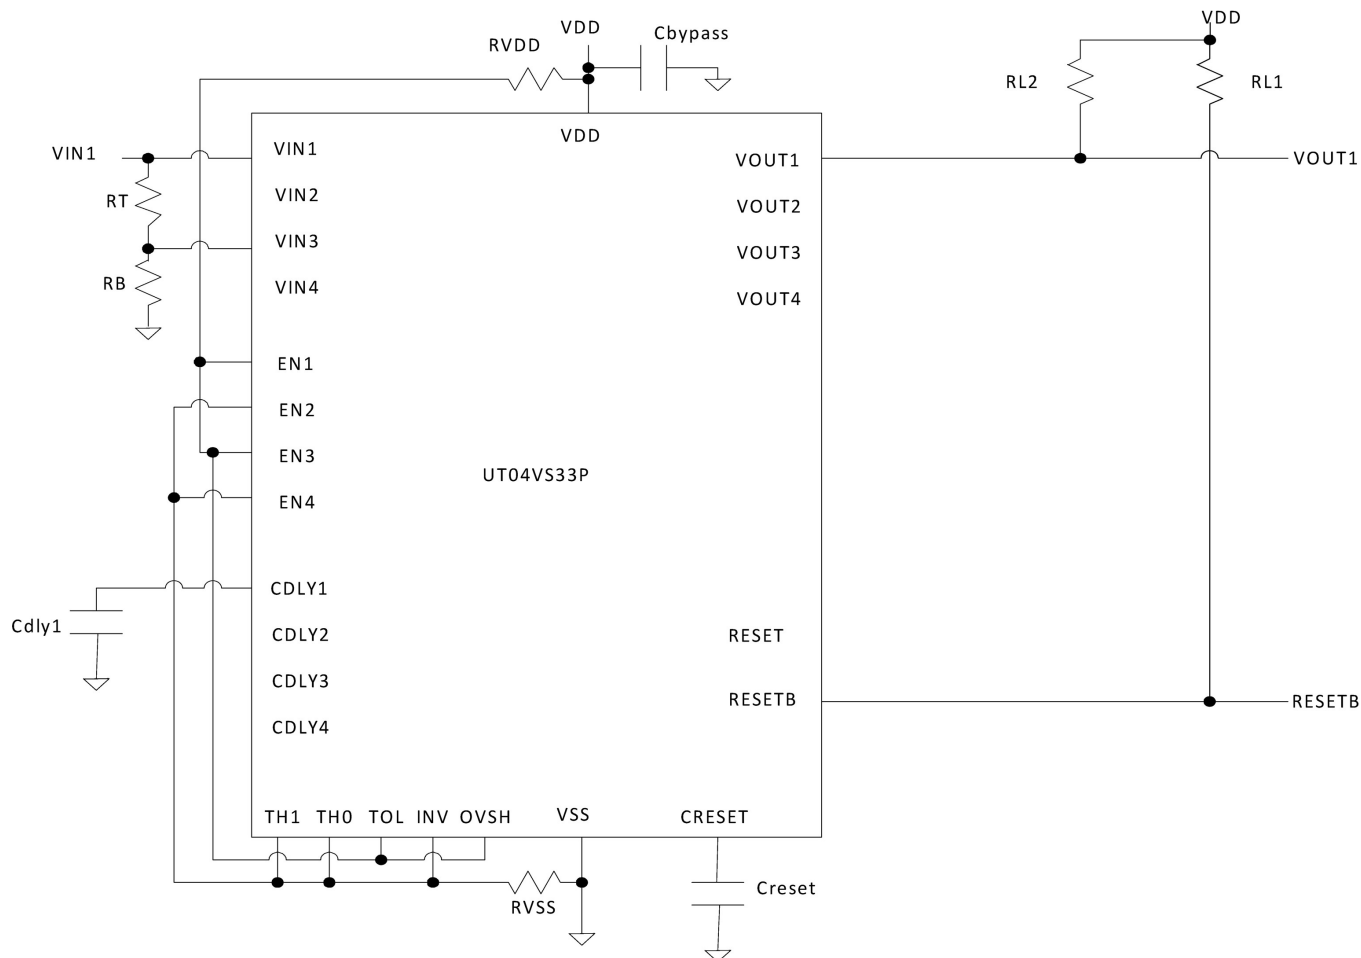
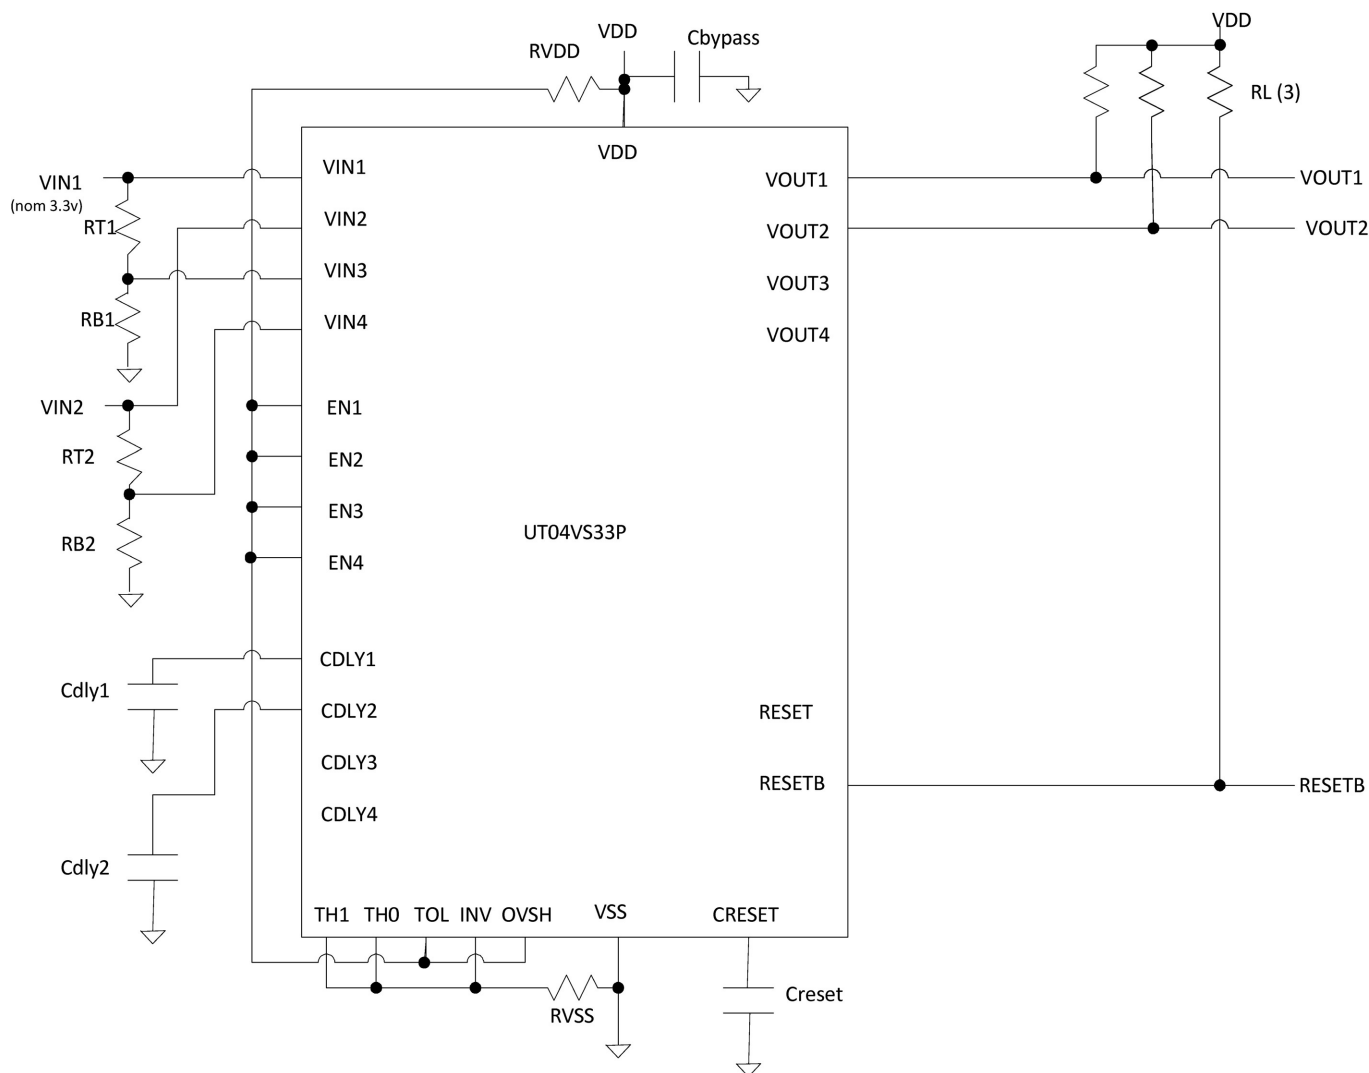

Figure 8: Extended use application showing OVSH connection for channel 1
Figure 9: Extended use application showing OVSH connection for channel 1 and 2
- For OVSH=1, VTH\_OVRV is the threshold which is set with external resistors to either the VIN3 or VIN4 input to monitor an over- voltage condition in conjunction with the under-voltage monitor by VIN1 or VIN2, respectively, as shown in Figure 8 and Figure 9.
Shown in Figure 8 is an extended application showing the use of Cdly and Creset capacitors. OVSH is set to logic 1 to highlight the under- and over-voltage detection mode connections. Thus, a resistor voltage-divider on channel 3 is connected from the channel 1 source.
Shown in Figure 9 is an extended application showing the use of Cdly and Creset capacitors. OVSH is set to logic 1 to highlight the under- and over-detection mode connections on channel 1 and channel 2. Thus, an r-divider on Channel 3 and 4 are connected from the channel 1 and 2 source, respectively